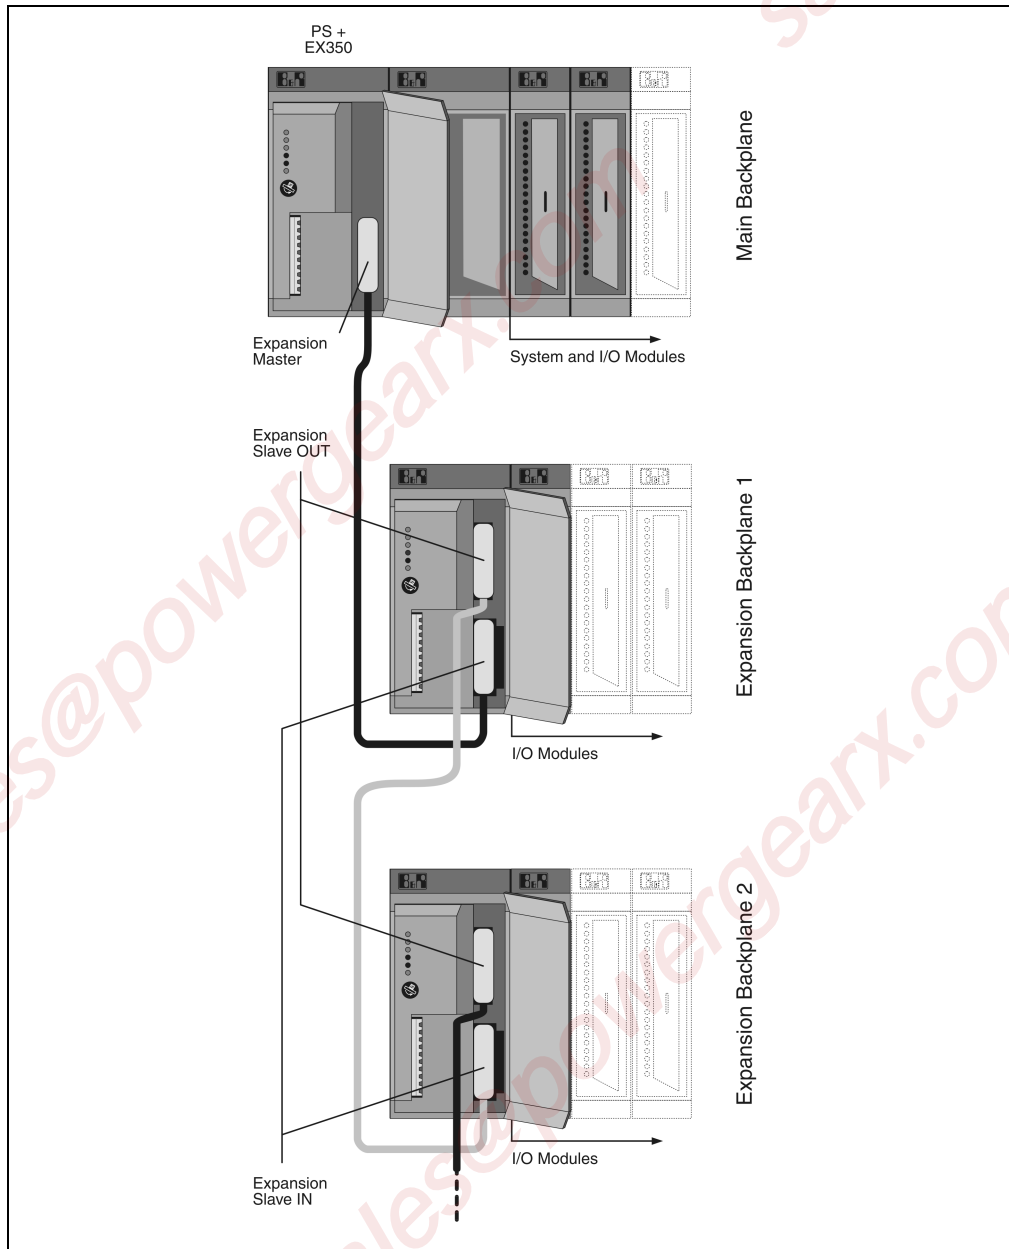

Figure 24: Local bus with expansion
- Cabling: see Figure 24 "Local bus with expansion", on page 57.